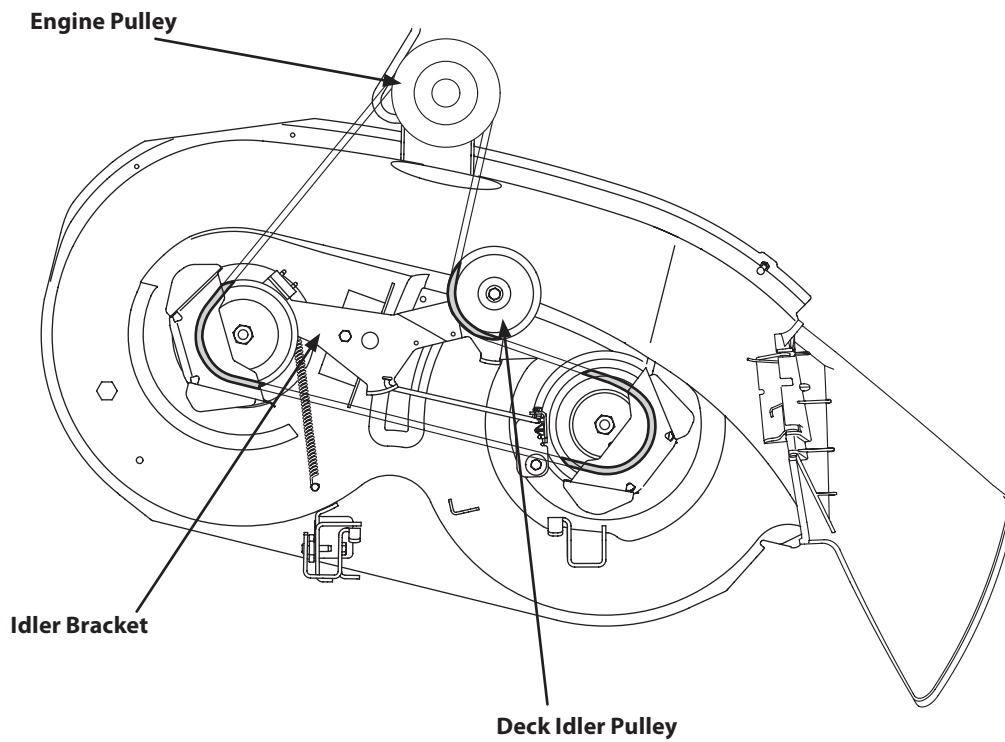

Figure 7-10
5. Route the new belt as shown in Fig. 7-10.